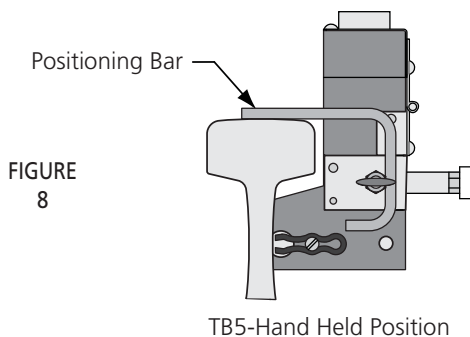
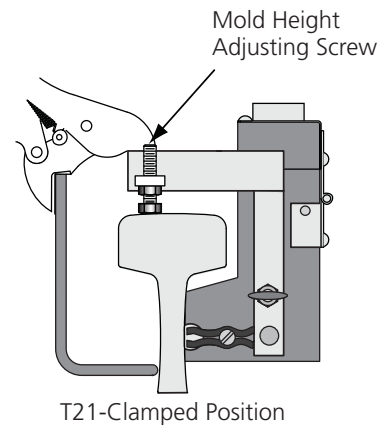

FIGURE 8
FIGURE 9
2. Position the welder with attached mold on the rail. Use the mold height adjusting screw of the positioning bar to locate the bond terminal at the neutral axis of the rail. **See Figure 8** for TB5 and **Figure 9** for T21 welder.